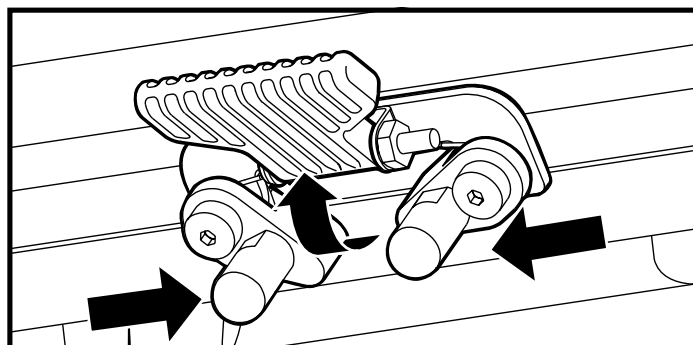

Figure 15. Seat Height Adjustment - Seat Latch Safety
4. Flip up the seat latch safety. See figure 15.
5. Squeeze the seat latch and release the seat from the front trapeze bar. See figure 15.